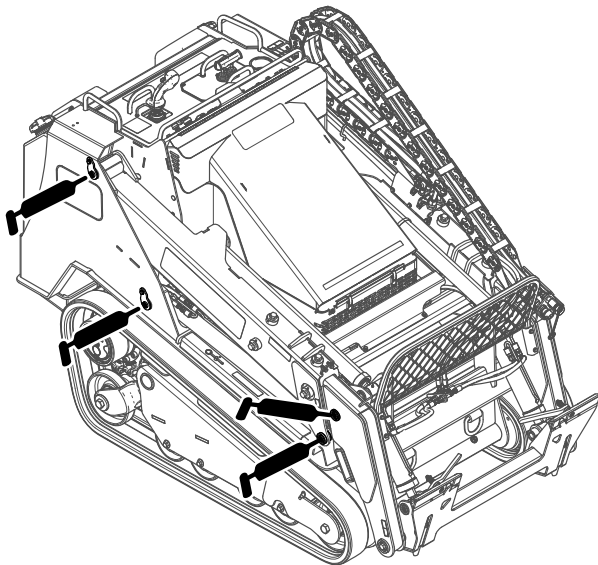
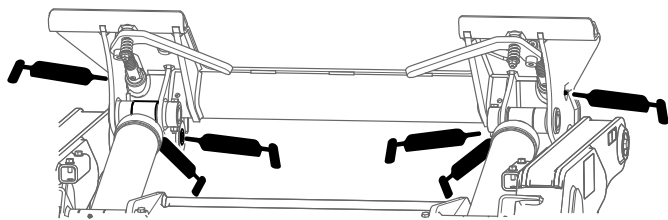
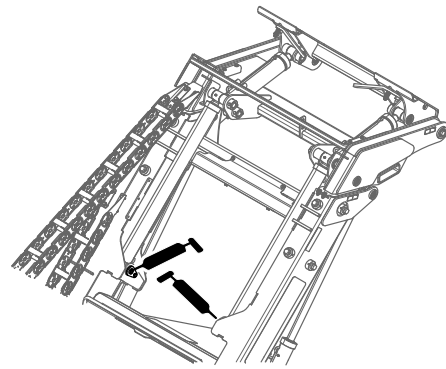

Figure 40
Figure 41
Figure 42
4. Connect a grease gun to each fitting (Figure 40, Figure 41, and Figure 42).
**Note:** Raise the loader arms before greasing the fittings in Figure 42.